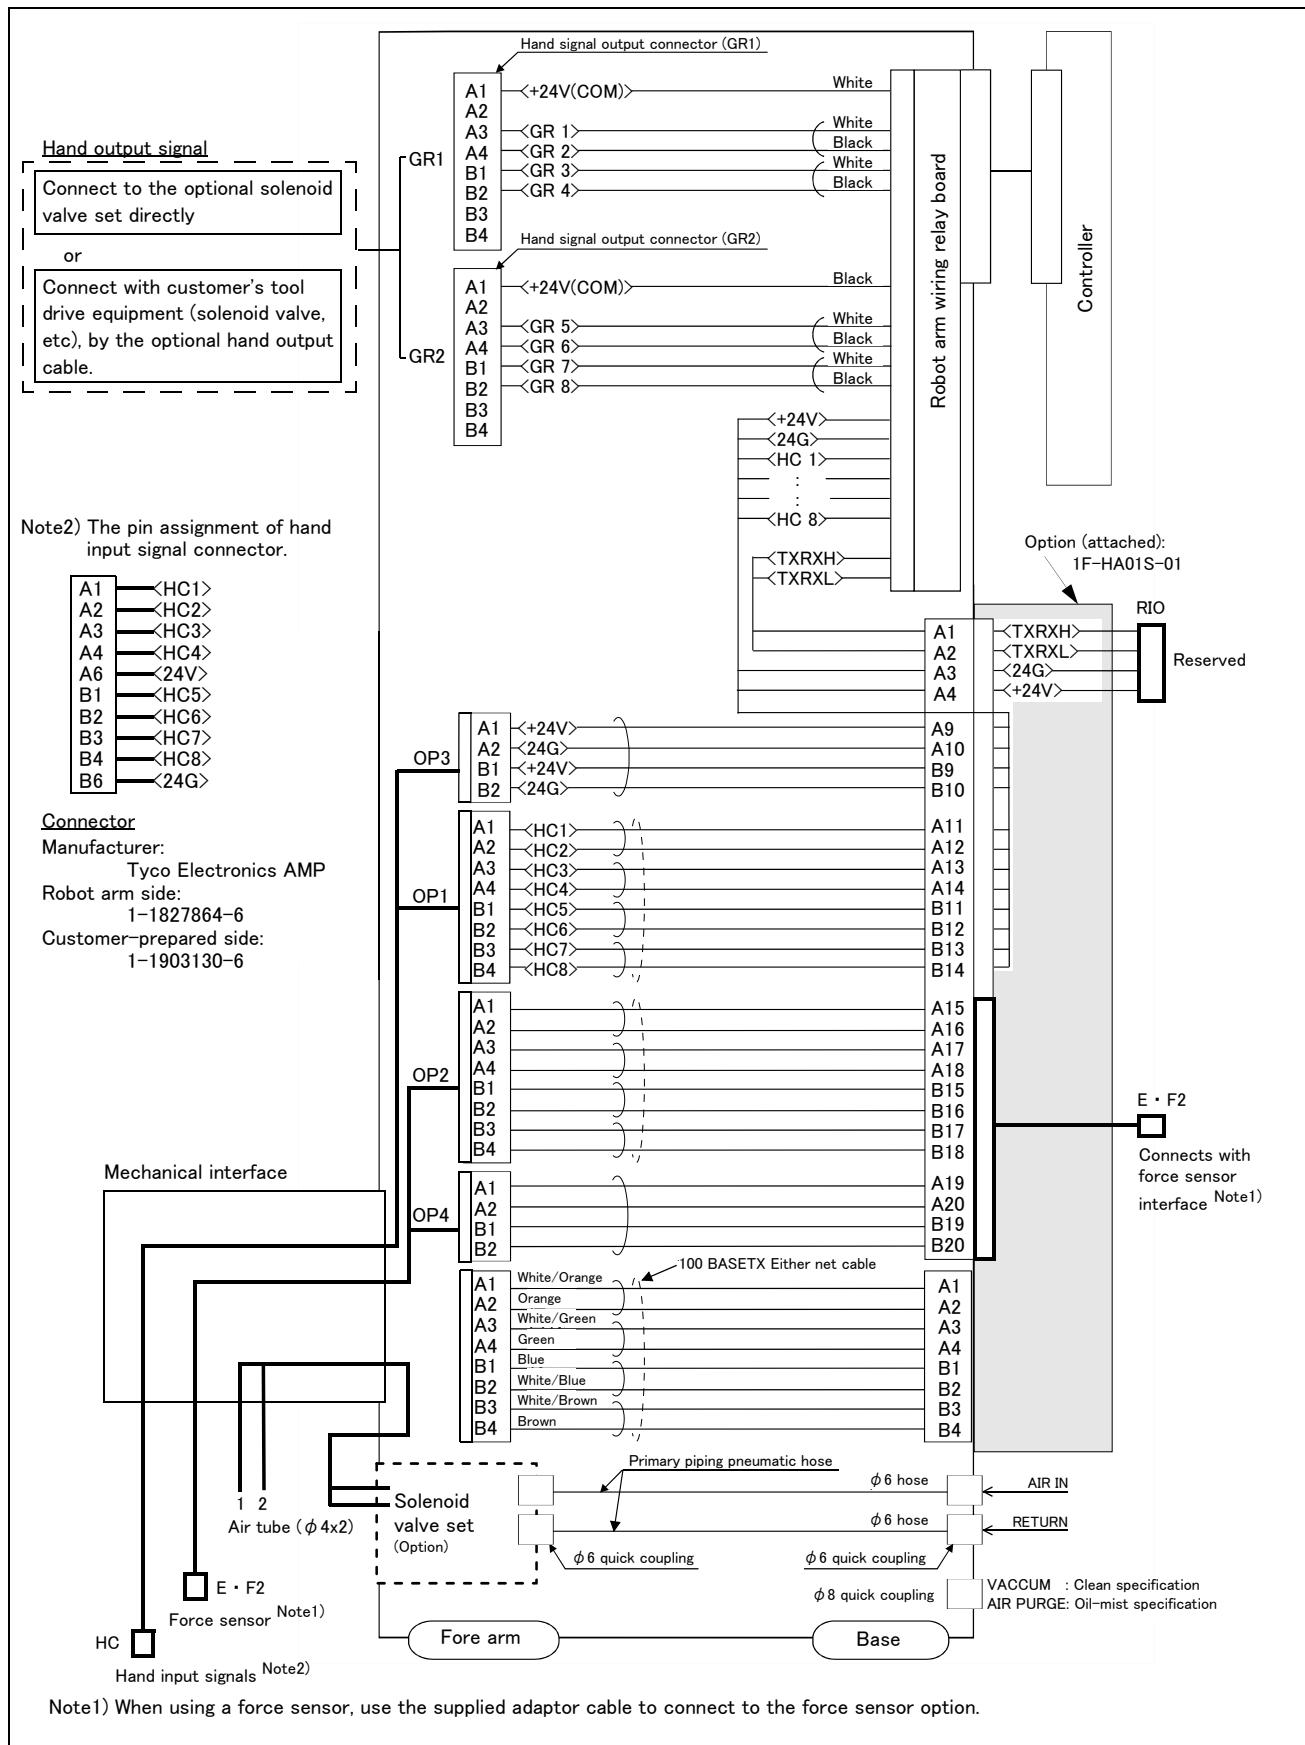

Fig.2-30 : Wiring and piping system diagram for hand and example the solenoid valve installation: SH04
\*3) Refer to Fig. 2-30 for pin assignment of the hand input cable (HC).